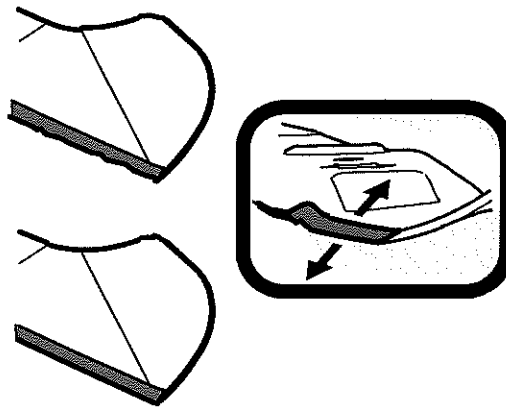

Figure 33
1. To properly sharpen the cutting blades, remove equal amounts of metal from both ends of the blades along the cutting edges, parallel to the trailing edge, at a 25° to 30° angle. Always grind each cutting blade edge equally to maintain proper blade balance. See Figure 33.